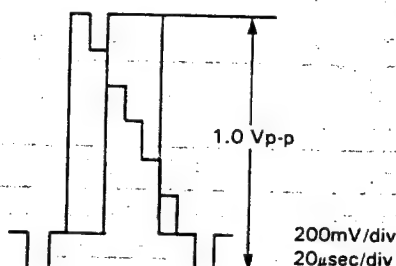

Figure 2-12.
2. Feed the colour bar signal (stair-case waveform) to the video input terminal. Observing the voltage across the terminal resistor of the video output terminal on the oscilloscope screen, adjust R201 (EE level control) to obtain the value indicated in Fig. 2-12.
6. Repeat the above step 5 to finally get the playback video signal level at $1.0 \pm 0.05 \text{ Vp-p}$, as shown in Fig. 2-12.